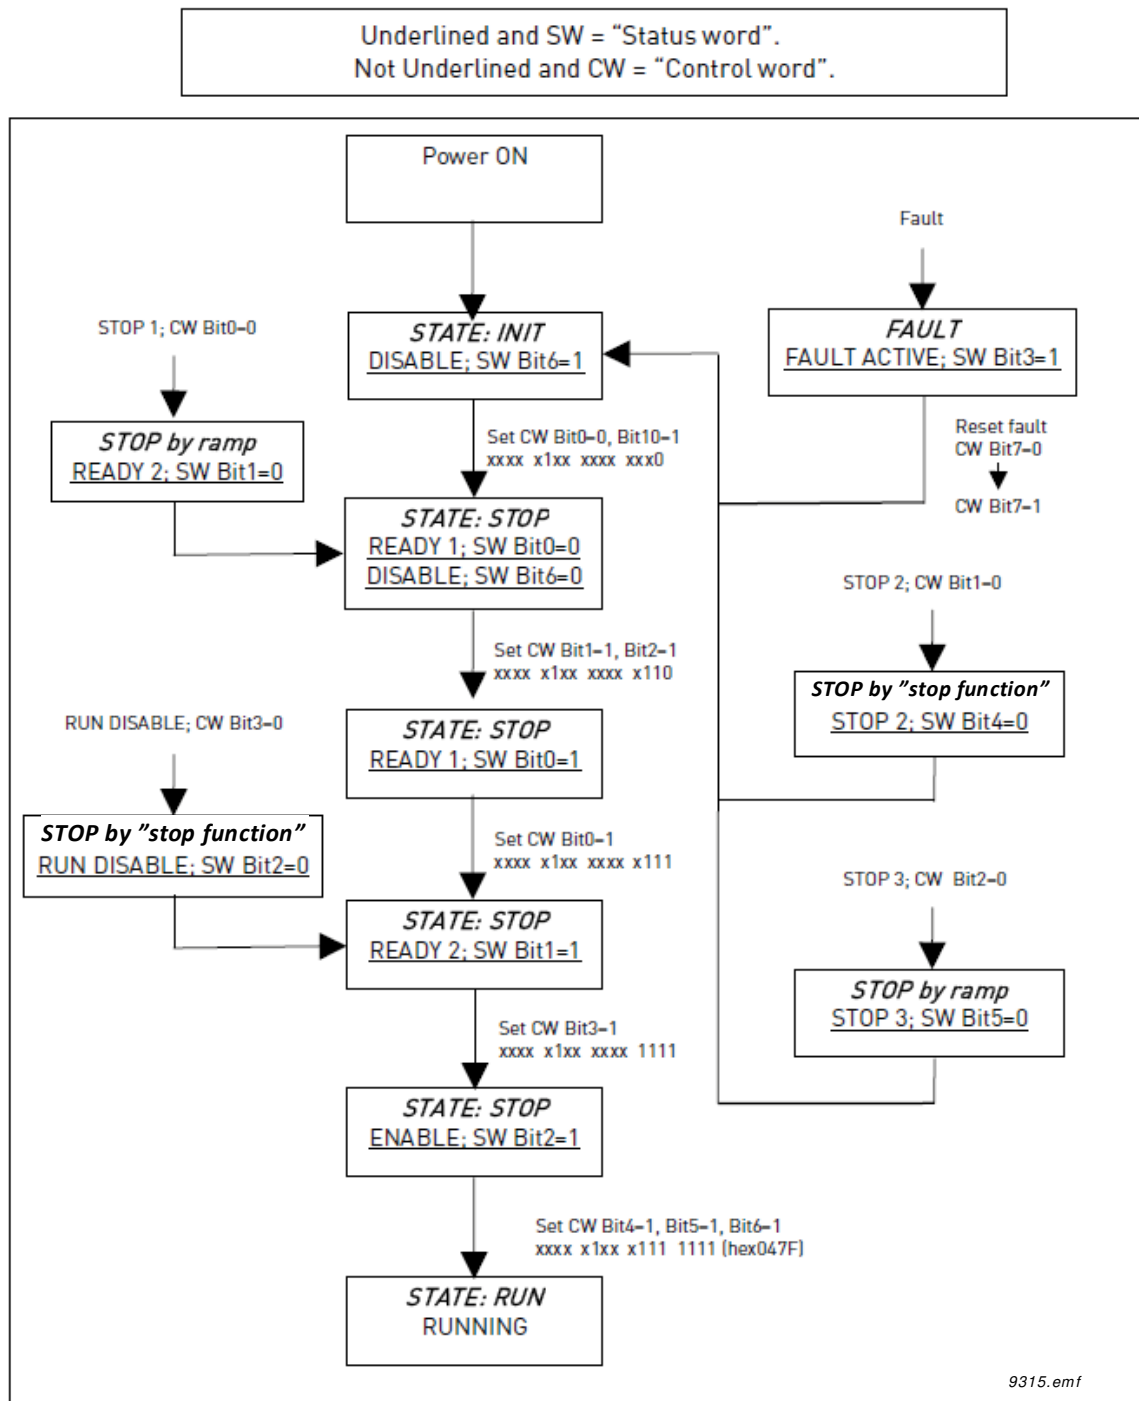

Figure 26. PROFIDrive 2.0 state machine
**The Control command for the state machine (see Figure 26)** The state machine describes the device status and the possible control sequence of the AC drive.